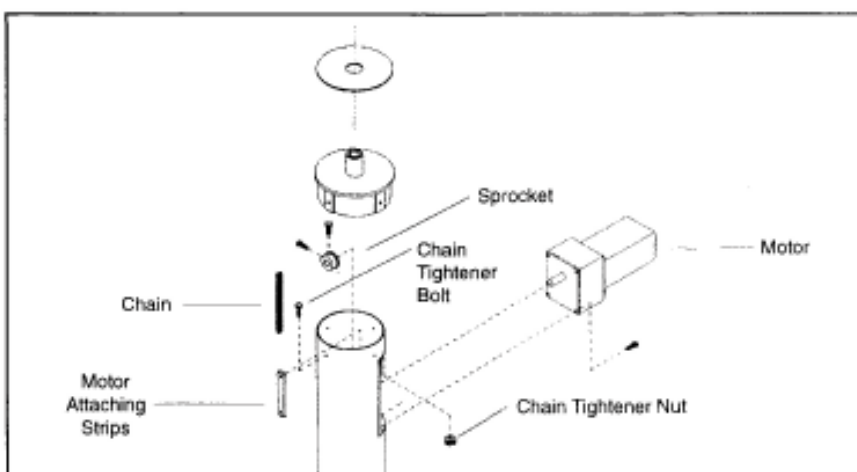

Figure 4.1
1. Disconnect plug-in on drive head and remove the two mounting plates with the toggle switch and plug-in intact. Remove the four screws holding the end cap and lift the end cap off. You can now access the motor attaching strips (see figure 4.1).